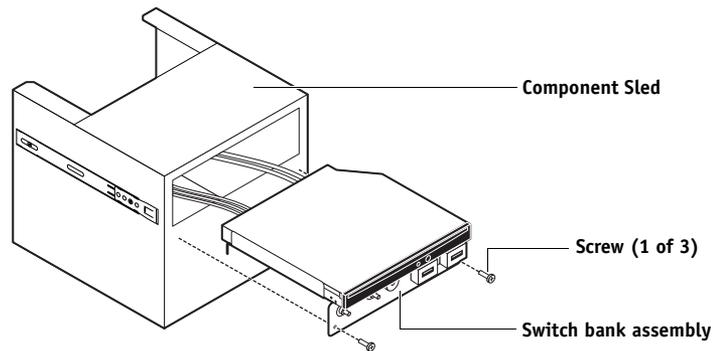

FIGURE 36: Removing/replacing the switch bank assembly
2. **Install the switch bank assembly in the Component Sled (see Figure 36).**